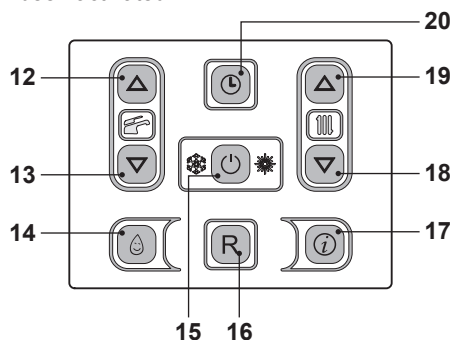
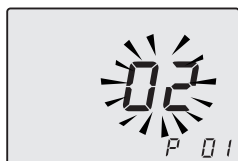

Fig. 8.14
Fig. 8.15
- Enter in "programming mode" by sequentially pressing keys 15 - 18 - 19 (Fig. 8.14) for 10 seconds at the same time until the letters **P01** are displayed on the LCD display, indicating that "parameter 01" (Fig. 8.15) has been activated.
- By pressing key 15 (Fig. 8.14) confirmation of the inserted value is obtained.
- Press keys 18 or 19 (Fig. 8.14) to exit without changing the value.